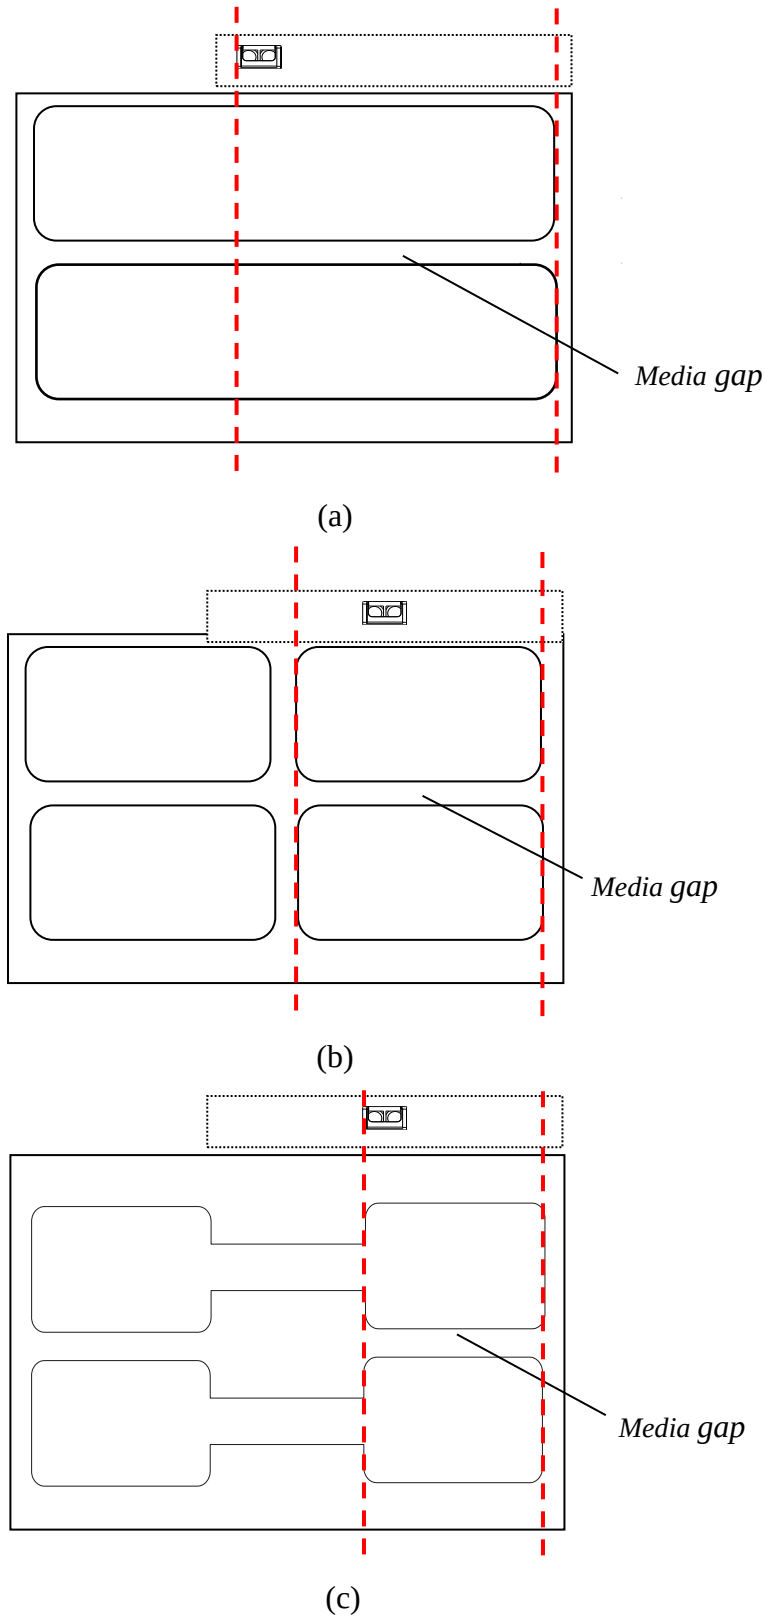

Figure 2-15 Media Sensor Position
- Technically, the Transmissive Sensor is designed to detect a gap, hole or notch between labels, the Reflective Sensor is for detecting black marks. However, in many cases, the Reflective Sensor also can be used to detect gap, hole or notch. When choose Reflective Sensor to detect gap between labels, please refer to Figure 2-15(a) (b) (c) to adjust the position of the sensor for different media types as shown, the sensor shall be placed between the dotted lines.